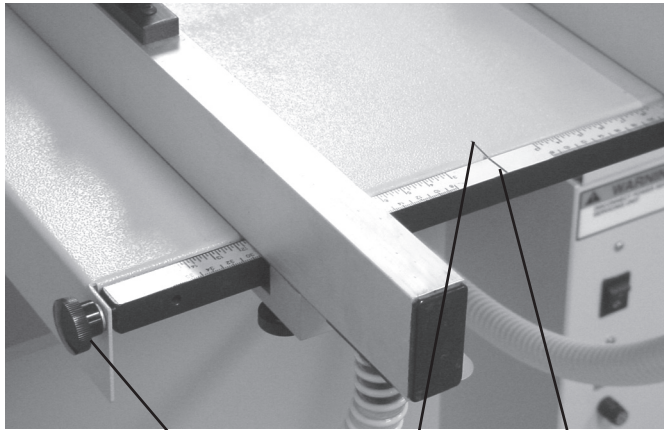

Fig 14 Feed Table Squaring Screw Table Center Mark Scale Center Line
1. Adjust the feed table squaring screw and align the center line of the scale with the center mark on the feeder table (Fig 14).
2. Loosely position the feed table side guides to the scales on the feed table, (Fig 14 & 15). Read the front scale at the inside edge of the side guide clamp block. The rear scale will line up with the inside edge of the side guide. The scales are set up to center the paper on the sucker wheel. Initially set each guide 1/4" (6.4mm) wide. Do not tighten the lock knobs.
4. Position the operator side guide so it is just touching the sheet but not pushing it. The side guide must be even to the sheet from end to end. Tighten the front lock knobs then the rear knobs, (Fig 14 & 15).
6. The paper will now feed square into the rollers. Now that the side guides are square, the feed table squaring screw, (Fig 14), can be adjusted for fine tuning the overall squareness.